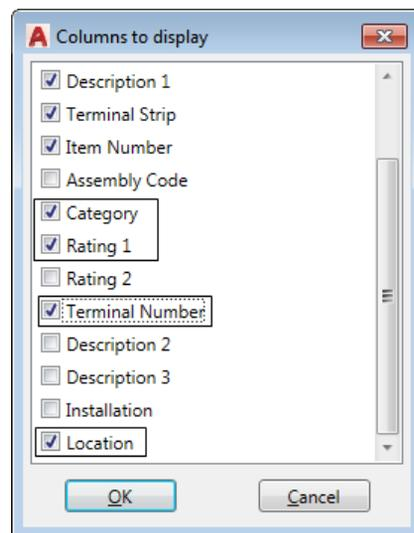

Figure 2-78 The Columns to display dialog box
- Scroll down in the **Columns to display** dialog box and select the **Category**, **Rating1**, **Location** and **Terminal Number** check boxes, as shown in Figure 2-78. Next, choose **OK**; the **Category**, **Rating1**, **Location** and **Terminal Number** columns are added to the grid in the **Details** tab.